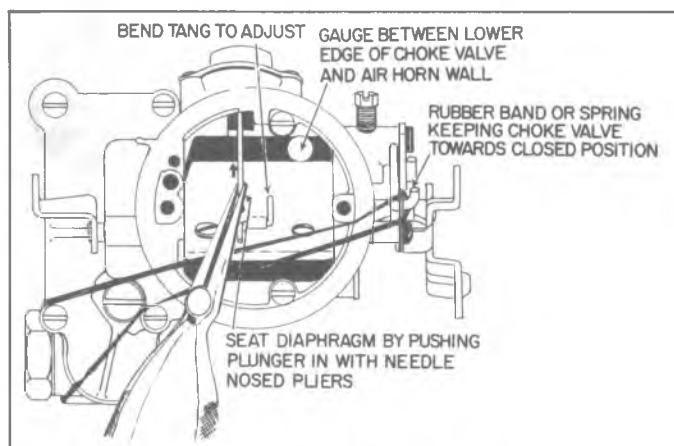

Fig. 7R—Vacuum Break Adjustment
5. Install air horn to float bowl by lowering gently on to float bowl until seated. Install (3) long and (3) short air horn to float bowl attaching screws. Torque screws tightly using correct tightening sequence. (Fig. 7R)